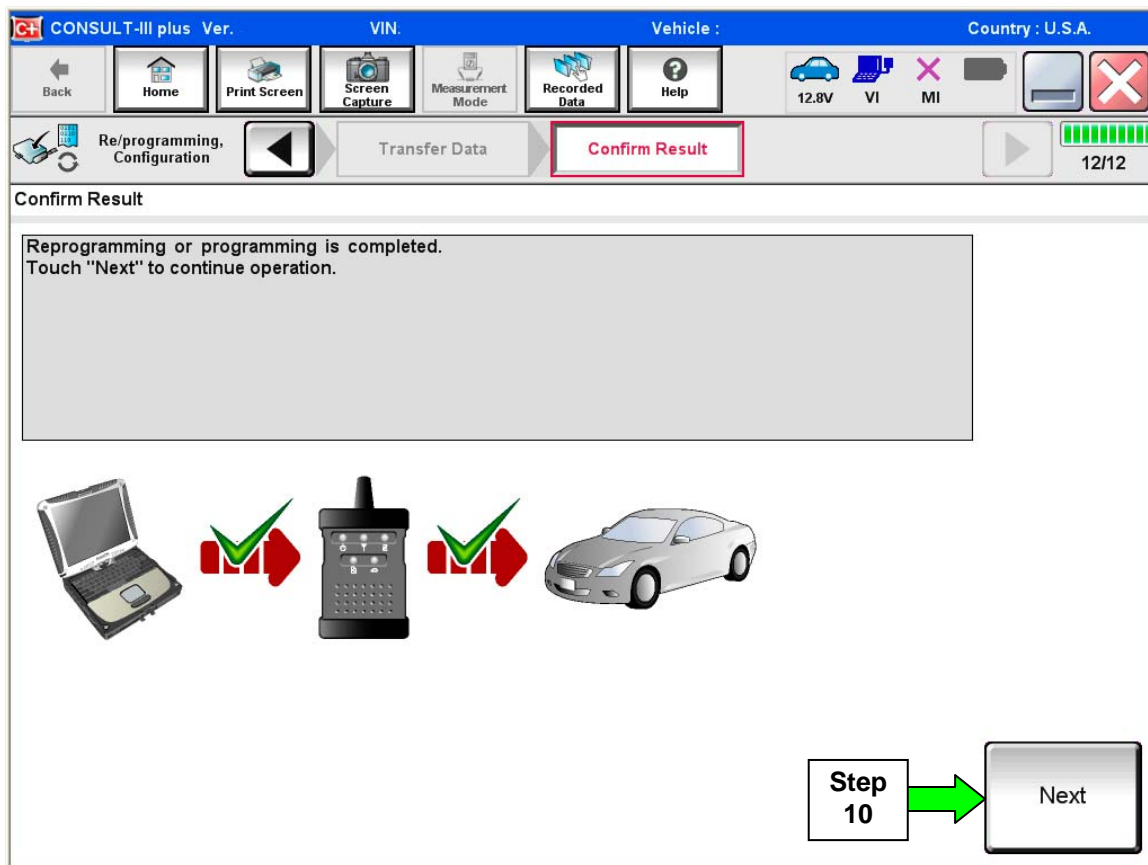

Figure 4
8. When the screen in Figure 4 displays, reprogramming is complete.
**NOTE:** If the screen in Figure 4 does not display (if reprogramming does not complete), refer to the information on the next page.